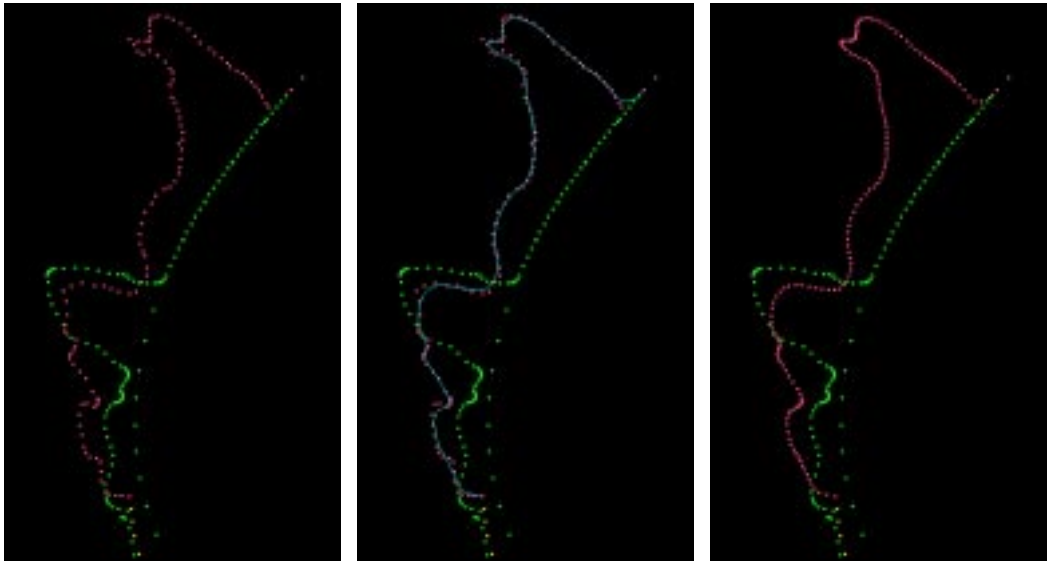

Figure 28. Left to right: original points; curve smoothed using 40 control points (control points not shown); new curve with 150 points.
- Make sure the view is zoomed into the area at the front of the airfoil (Figure 28).